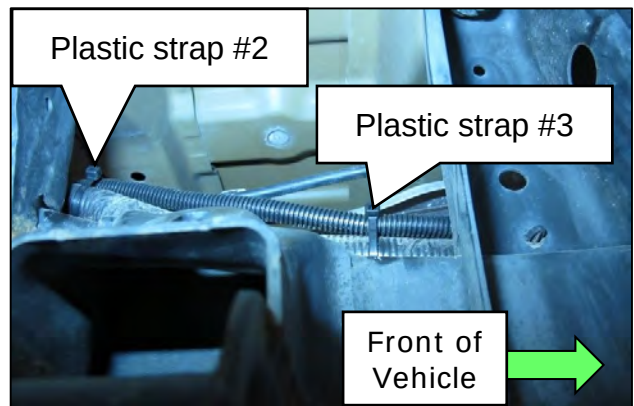

Figure 44
- Figure 44 is from the frame rail RH side (outer) above the leaf spring eyelet.